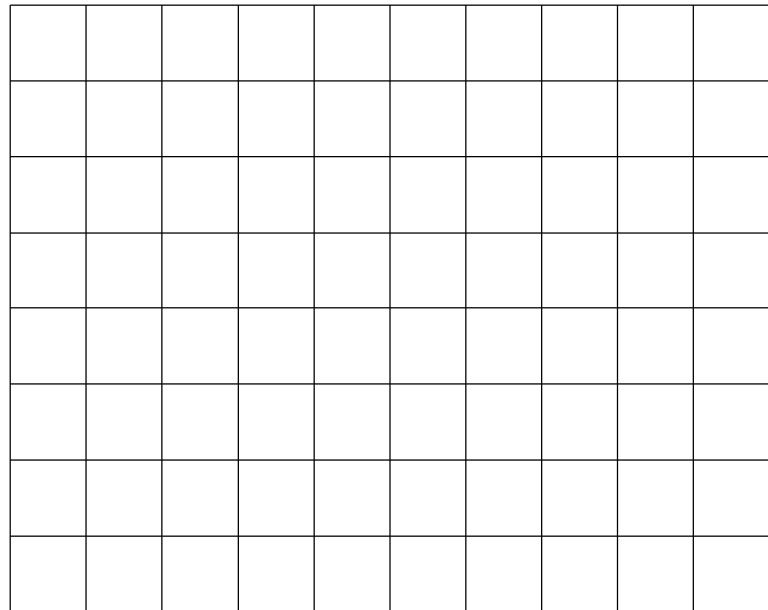

Fig. 16.3.10: Generation of needle pulses
- Draw the signal waveform in the chart (Fig. 16.3.10).